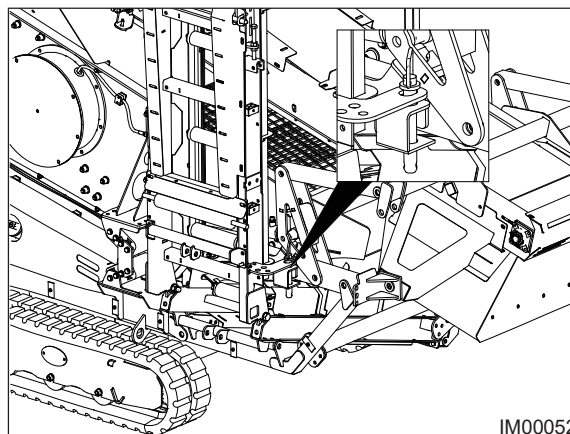

Fig: 10.8 - Transport Pin
6. Insert the transport pin (Fig: 10.8) and secure.